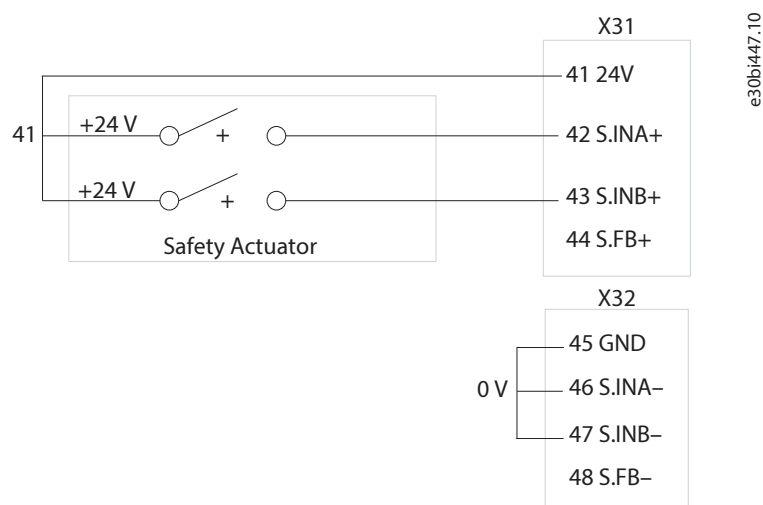
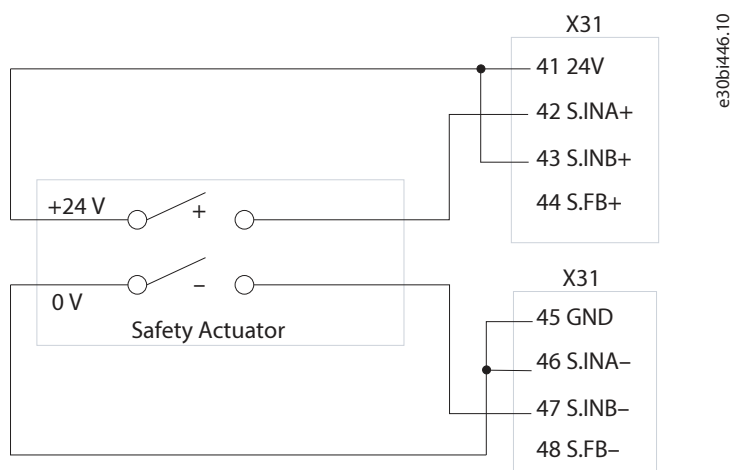

Figure 7: STO Connection Example for Using the Same Polarities (Channel A and Channel B = 24 V)
Figure 8: STO Connection Example for Using Different Polarities
- **Galvanic isolation of terminals:** The functional safety I/O terminal blocks on the control board (X31, X32) have separate, galvanically isolated inputs to allow, for example, interchanging of the polarities of the STO input terminals as shown in Figure 7 and Figure 8.
Due to the galvanic isolation of the STO inputs, various connections and different polarities are possible in the wiring. For example, connect a safety actuator to STO input terminals, and set the voltage references as shown in Figure 7 and Figure 8. Setups with the same voltage level on both channels (+24 V) are supported, but also setups with different voltage levels (+24 V and GND) are supported.